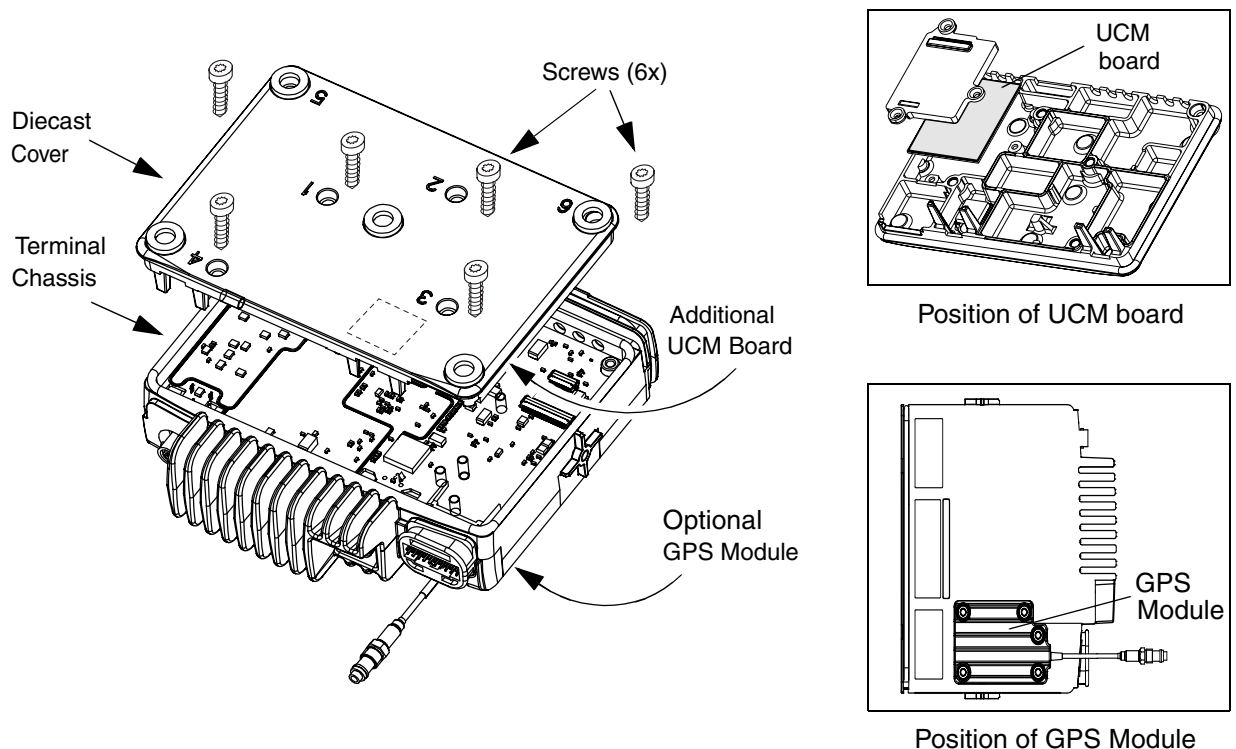

Figure 4 Diecast Cover Removal
1. Remove six screws from the diecast cover using the T20 TORX™ driver as shown in Figure 4.